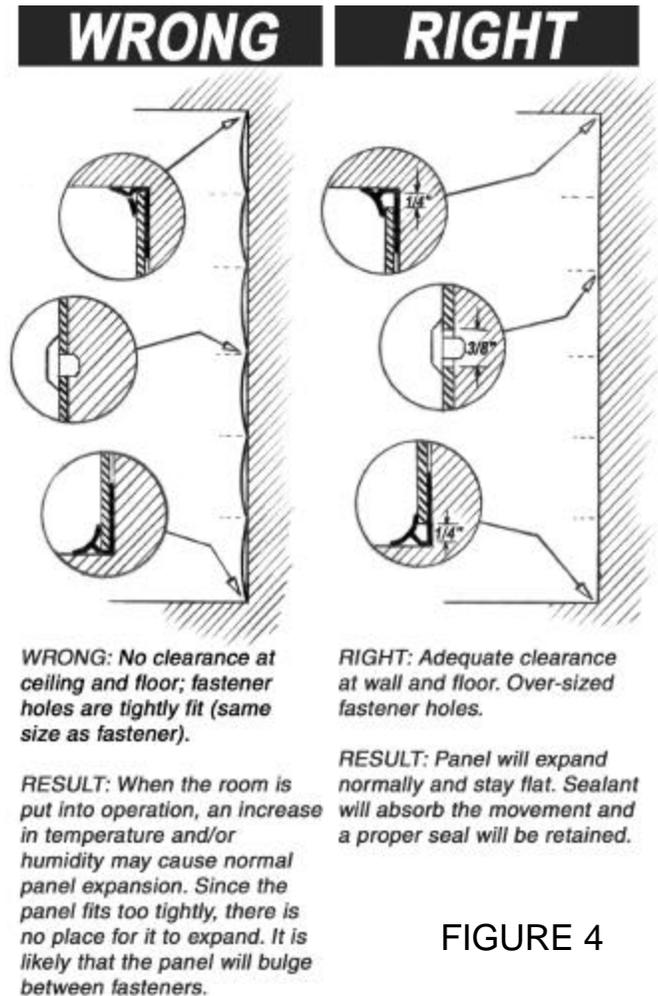

FIGURE 4
humidity and temperature that must be accounted for during installation with proper spacing around panel edges and around fixtures attached to the panel/wall. Adequate space must be allowed for panel expansion and contraction. For a 4' x 8' panel, a minimum gap of 1/4" is required at the top and bottom of each panel and 1/8" between panels (figure 4). More room will be required for longer panels. It is recommended that panels do not exceed 48" in width and 12' in length to aid in ease of installation and ensure a satisfactory finished installation. See the frp panel Expansion Joint Chart for appropriate spacing at ceiling, floor and between panels.
- Preplan for cove or base molding. Frp panels should be installed so that the base molding will not restrict normal panel movement during expansion and contraction. Cut panels 1/4" short of where the base molding will extend; poured molding should be in place prior to installation (figure 4).